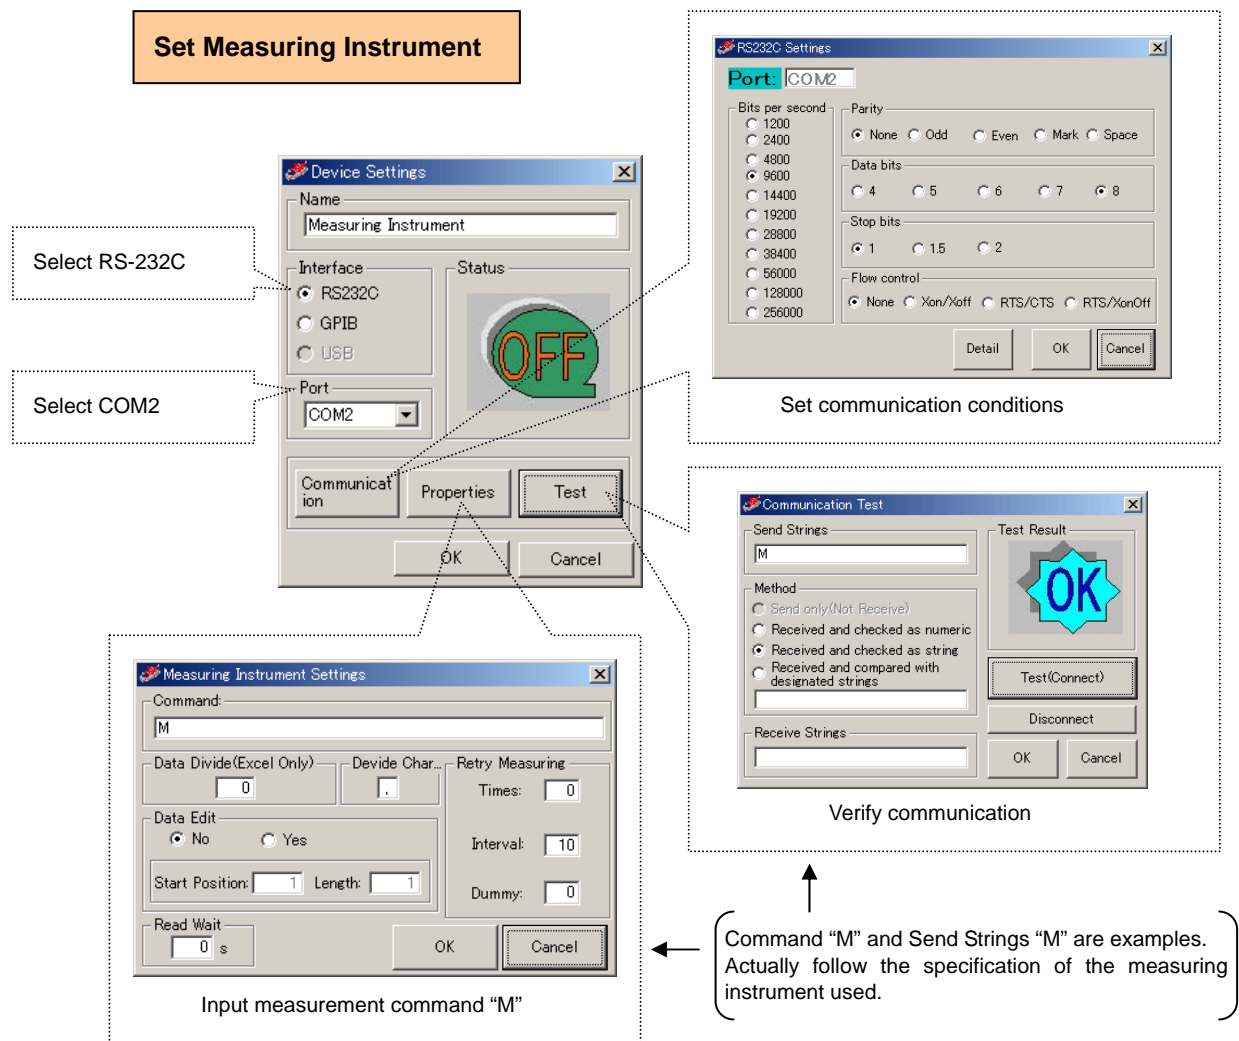

Fig. 4-50 Settings for Measuring Instrument
- 4 Displays the control characters specified in the Excel Instruction dialog (Fig. 4-50). Or, you can change the characters in this box.
- 5 If you select a control device to which the control characters are sent, click Send to transmit the characters to the device. In addition, comment strings described in Fig. 4-50 are displayed in the mark column of the destination file.
(6) Result Output